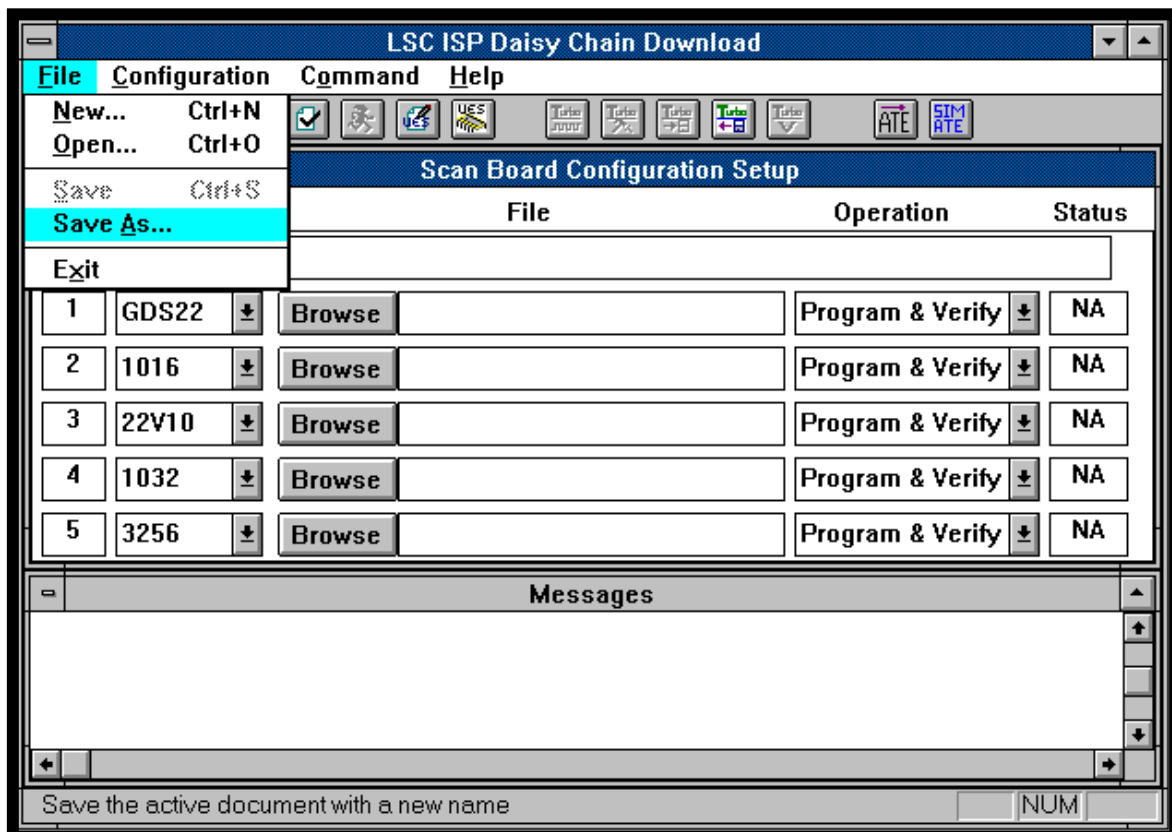

Figure 3-29. **File** ⇒ **Save As** Menu Option
1. Select **File** ⇒ **Save As** or click the **Save** icon from the ISP Daisy Chain Download menu (Figure 3-29). The standard Save As dialog box appears.